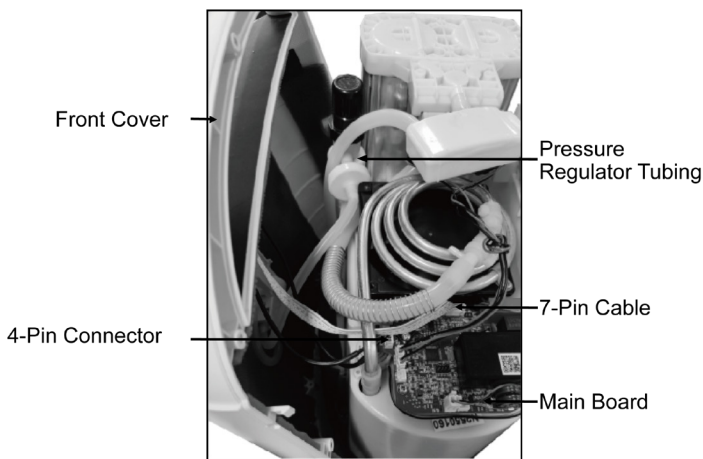

Figure 14
- ▶ Pull out Pressure Regulator Tubing from pressure regulator, disconnect 4-pin connector & 7-pin cable then remove the front cover. (Figure 14 & 15)